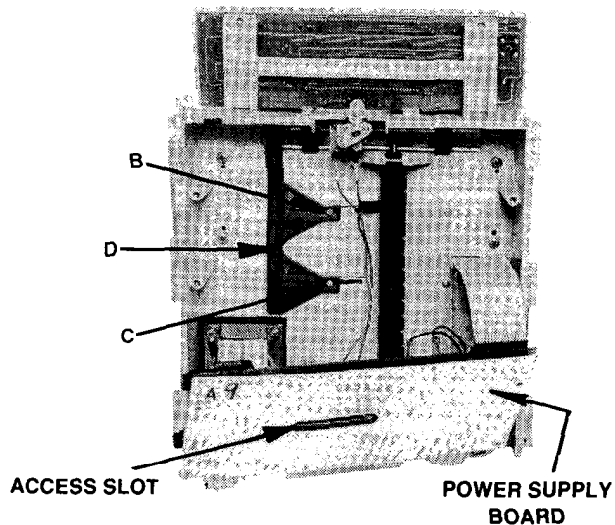

Figure 3
- If the cards fit, go to step 5. Otherwise, proceed as follows (Figure 3):
Note: Although Figure 3 shows the power supply board partly removed, this need not be done. Screws B and C are accessible thru the slot in the power supply board and from under the board.